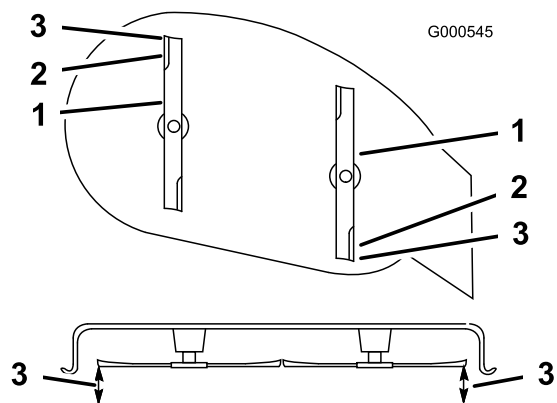

Figure 37
- Measure from the top of the front blade to the flat surface and the tip of the rear blade to the flat surface (Figure 37). If the front blade tip is not 0 to 1/4 inch (0 to 6 mm) lower than the rear blade tip, adjust the front locknut.
Note: Continue adjusting the nut until the front blade tip is 0 to 1/4 inch (0 to 6 mm) lower than the rear blade tip (Figure 37).